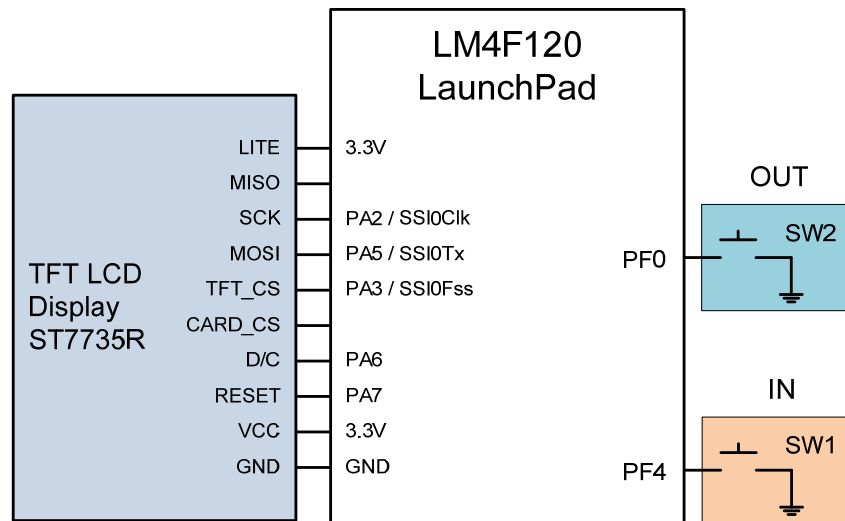

Fig. 1 Connection diagram
6. Obtain from the support office the required hardware for the lab. Connect the LCD display with the LaunchPad. The connection diagram is given in Fig. 1.